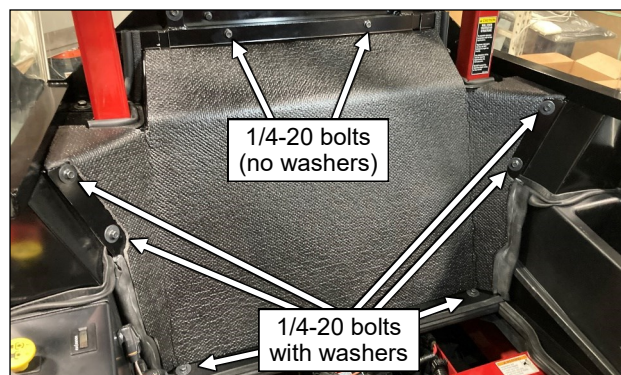

Fig. 11.4 (Lower Rear Panel)
- 11.4 See Fig. 11.4. Raise the seat forward. Place the lower rear panel inside the cab against the cab panels. Secure the rear panel to the bottom of each under-seat panel with a 1/4" bolt and fender washer. Secure the rear panel to each side frame panel with two 1/4" bolts and fender washers. Secure the top of the rear panel to the rear frame with two 1/4" bolts (no washers here). Tighten all bolts snug.